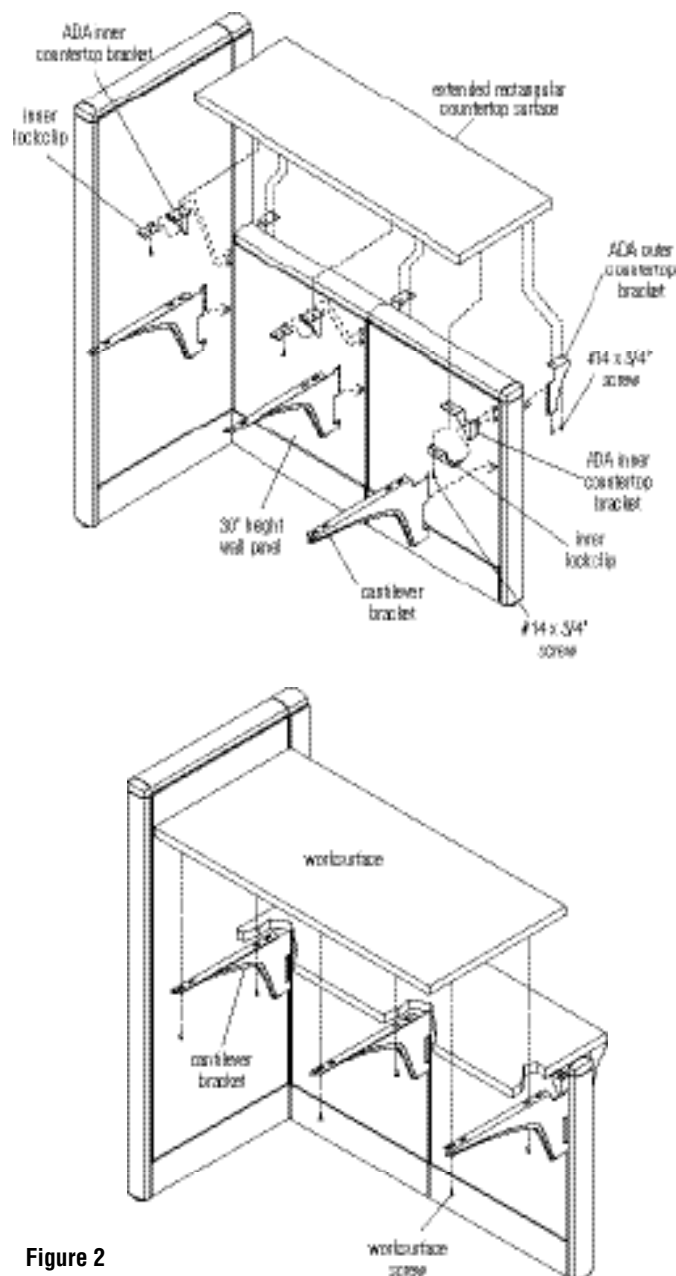

Figure 2
6. Carefully position the worksurface onto the cantilever brackets and attach using six worksurface screws (Figure 2).